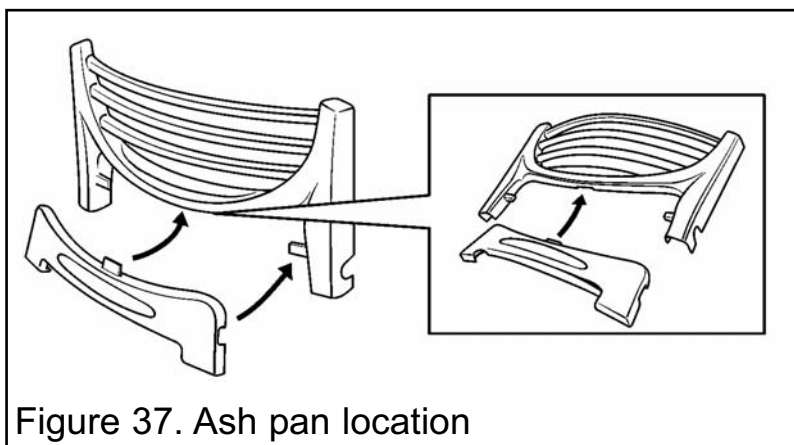

Figure 37. Ash pan location
- Fit the "ash pan" cover below the front casting locating it as shown in figure 37.